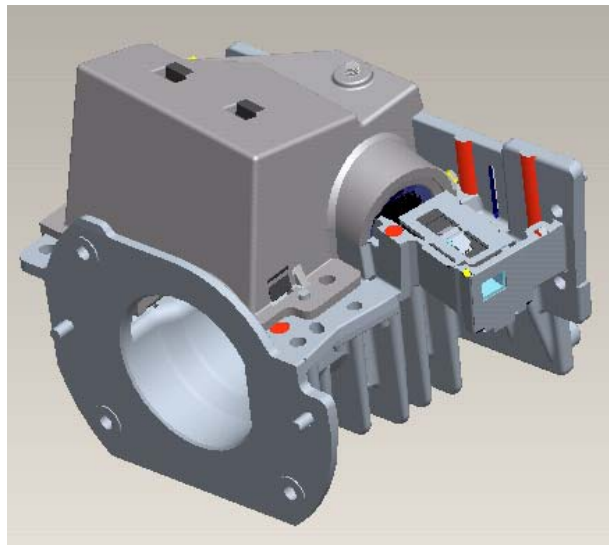

Fig. 9-2
9.2 Assemble” HSG ILL Module” to HSG DMD and cover over on “AL” (Fig. 9-2)